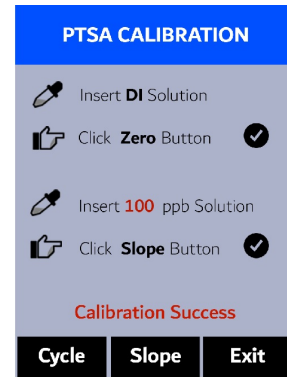

Figure 5.
10. If the calibration succeeds, a checkmark (), a "Calibration Success" message will appear (Figure 5). Otherwise, a warning message is displayed.